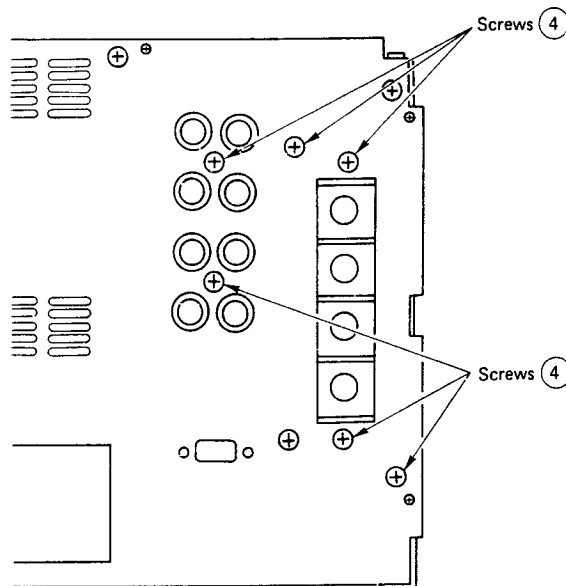

Fig. 3
- 1) Remove CN8 connected to the tuner P. C. boards and six screws (4) shown in Fig. 3.